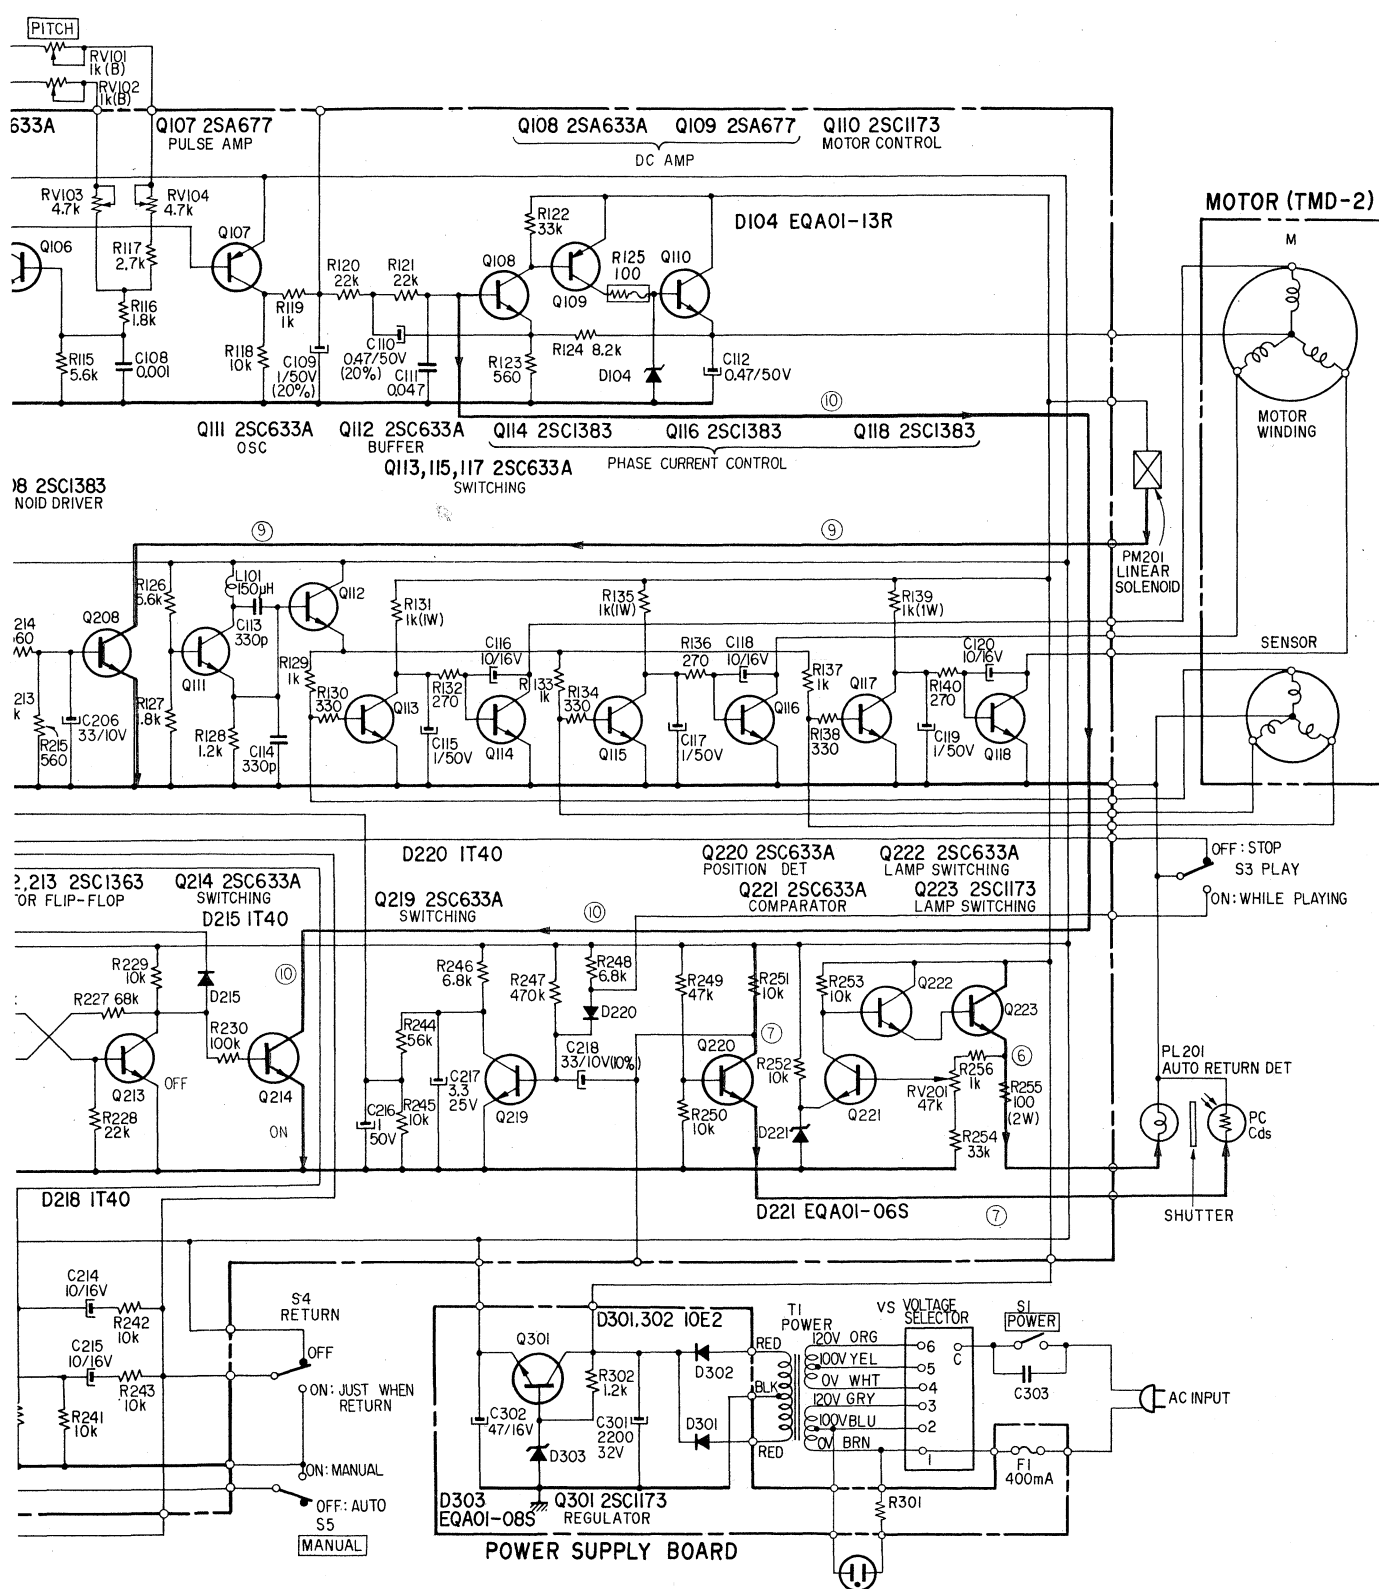

Fig. 2-6.
1. Operation when power switch turned ON. (see Fig. 2-6)
1. When the power switch is turned ON, C209 is charged up, and Q211 turned ON. ((1) and (2) in Fig. 2-6).
2. Once Q211 is turned on, currents flow through D210, D214 and D209 ((3), (4) and (5) in Fig. 2-6), resulting in the resetting of each of the flip-flops (i.e., Q210, Q212 and Q218 are turned ON, and Q209, Q213 and Q217 turned OFF). This situation thus maintains circuit stability.
3. Operation for auto-return (see Fig. 2-6)
1. When the power switch is turned ON, and Q222 and Q223 turned ON, the auto-return detector lamp PL201 lights up. (Current flow (6) in Fig. 2-6.)
2. When the tonearm reaches the return position, a shutter is opened, and light from PL201 falls upon PC (CdS). The resistance of PC consequently decreases, resulting in the Q220 collector potential being dropped, and the Q219 base potential being dropped through C218. Consequently, Q219 is turned OFF, and Q206 turned ON. (See current (7) and (8) in Fig. 2-6.)
3. The base of Q207 is thus grounded, resulting in Q207 turning OFF, and Q208 turning ON, and a current flowing through the solenoid. (Current (9) in Fig. 2-6.)
6. Q211 is turned ON via C215, R243 and D211, resulting in the flow of currents marked (3) and (5) in Fig. 2-6.
7. Consequently, flip-flops Q209, Q210 and Q212, Q213 are inverted (Q209 and Q213 are turned OFF, and Q210 and Q212 turned ON), or in other words, reset. Q213 is then turned OFF, resulting in Q214 being turned ON (current flow (10) in Fig. 2-6), and the base of Q108 being grounded. Therefore, Q108, Q109 and Q110 are all turned OFF, and the motor stops rotating. Further, since Q209 is turned OFF, the START indicator lamp (LED) D201 goes OFF.